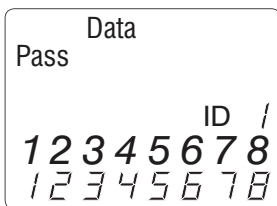

Figure 8. Data Mode Test
3. **Single Test.** To run a single test, press the DATA MODE button. The following appears in the display screen (see Figure 8):